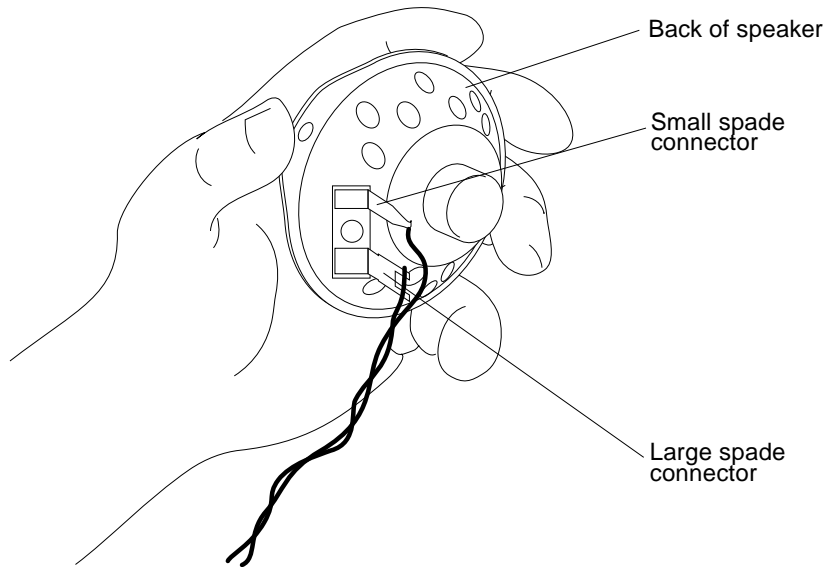

FIGURE 8-9 Speaker Connectors
1. **Slide the spade connectors onto the speaker terminals** (FIGURE 8-9).